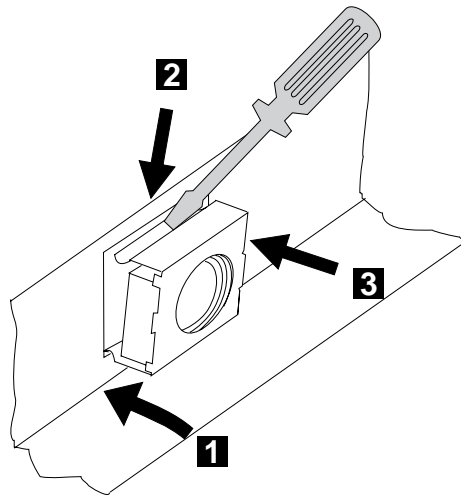

Figure 1-11. Installing the Captive Nuts
2. \_\_\_\_ Refer to Figure 1-11 to **install** the two captive nuts (PN 58G5766).